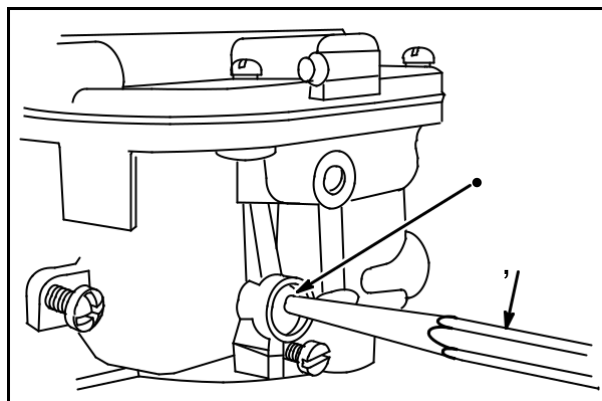

Fig. 85
Install new transitional hole welch plug (1), **Fig. 85**.